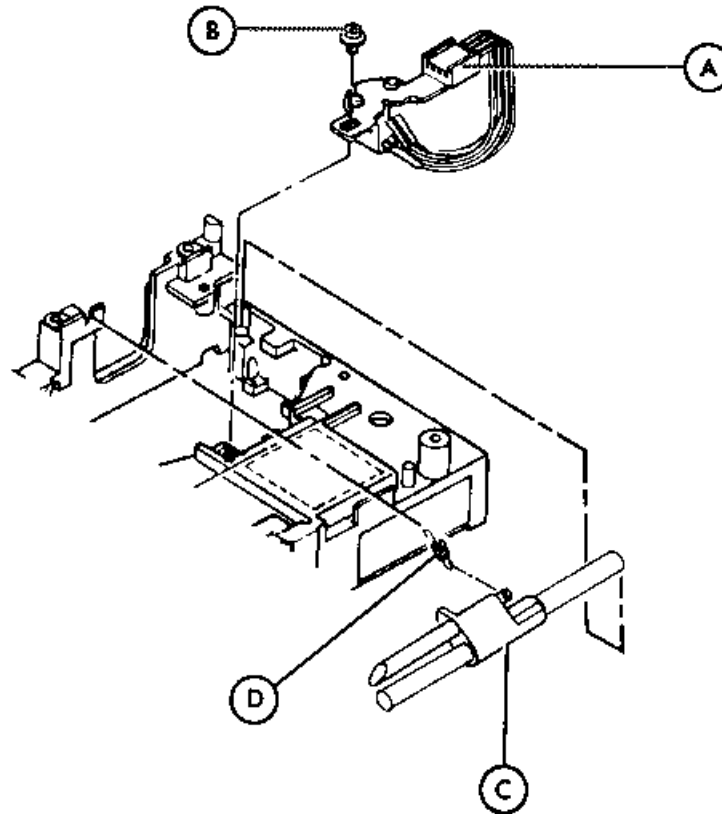

FIGURE 4-11. TRACK 00 SENSOR REMOVAL/REPLACEMENT
4.3.9 Track 00 Sensor and Jacket Lifter Removal (Figure 4-11)
4.3.10 Track 00 Sensor and Jacket Lifter Replacement (Figure 4-11)